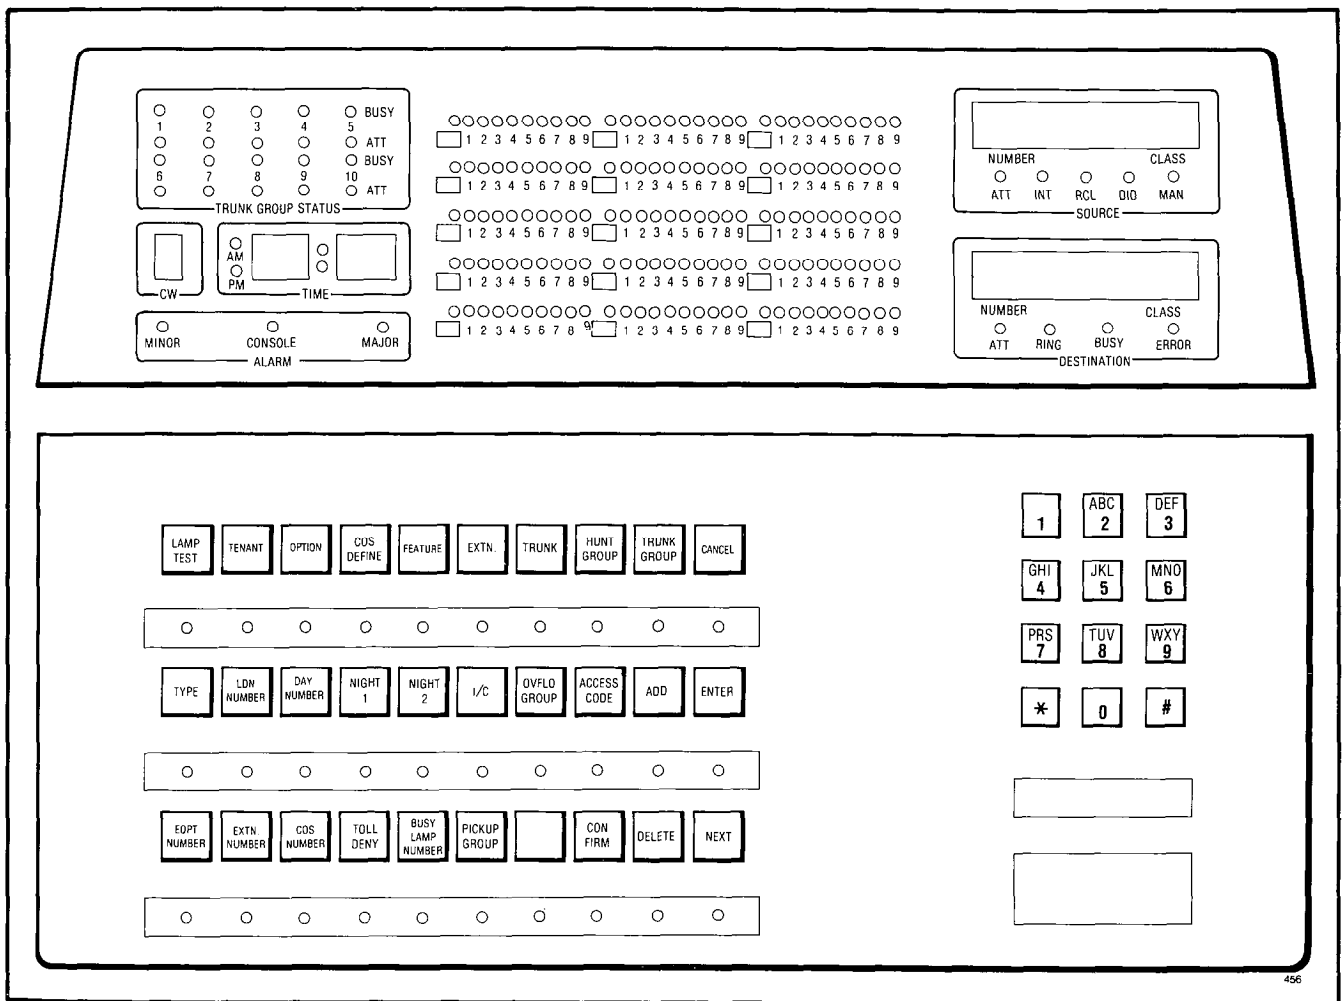

Fig. 4-1 Programming and Maintenance Console Faceplate Layout
endant Console Key assembly. This is illustrated in Fig. 4-1.
4.04 Each button on the console faceplate (Fig. 4-1) has associated with it an LED. When a program is selected, the LED associated with the program lights, and remains lit for as long as the program remains selected. During programming, the LED indicating the parameter to be entered lights, and remains lit until all data associated with that parameter is entered. This does not apply to extended programming (see 6.02).